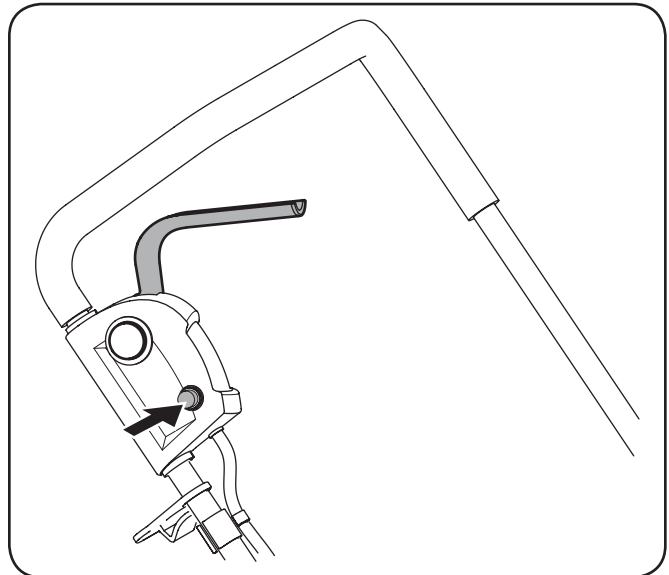

Figure 6-2
2. Lubricate the torsion spring on the side mulch plug periodically with light oil to prevent rust. See Fig. 6-2.
2. Press the overload protection switch inward to reset. See Fig. 6-2.